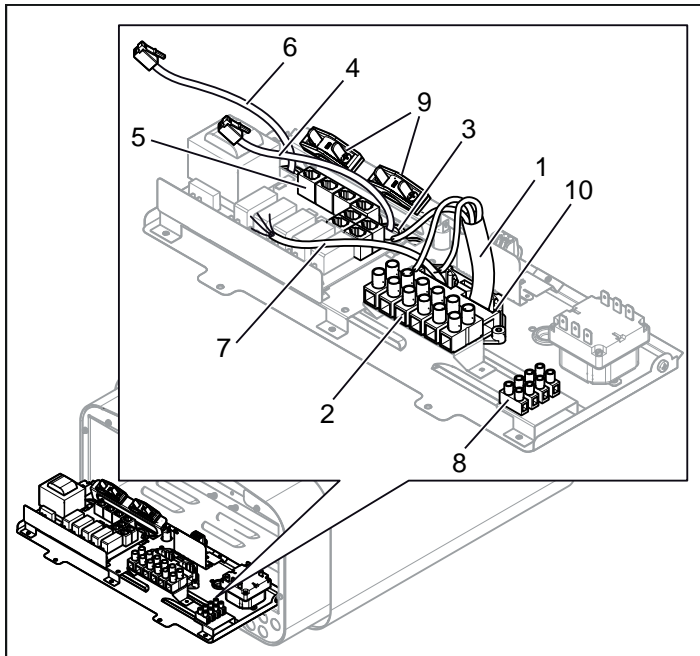
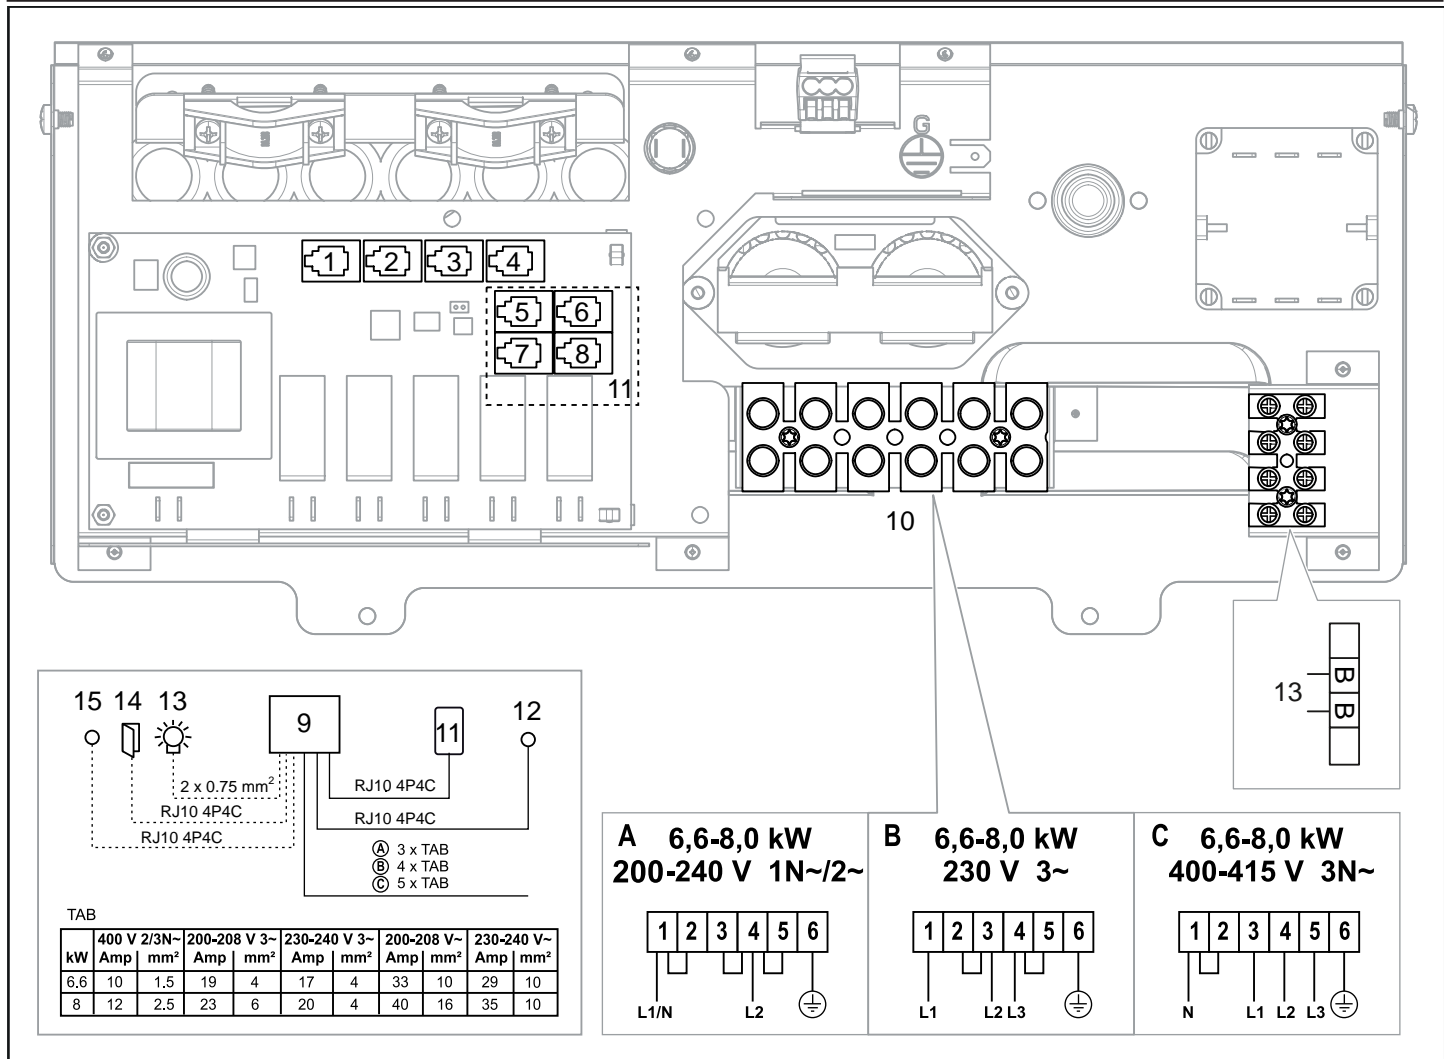

Figure 9: Circuit board
Figure 17: Wiring diagram
3. Connect the electrical cable (1) to the terminal (2) (see Figure 9) according to the wiring diagram (see the Connection/wiring diagram section, page 11).
- Run the cables for the control panel and the temperature sensor through the cable grommets (3). Connect the control panel cable (4) to one of the four RS485 contacts (positions 5-8) (see Figure 9) according to the wiring diagram (see the Connection/wiring diagram section).
- Connect the sensor cable (6) to the NTC contact on the circuit board (position 1) (5) (see the Connection/wiring diagram section) according to the wiring diagram (see the Connection/wiring diagram section, page 11).
- Connect the light cable (if relevant) (7), see Figure 9, to the terminal (8) according to the wiring diagram Figure 17.
Contact Tylö Customer Service before connecting to voltages or numbers of phases that are not listed in the wiring diagram Figure 17.